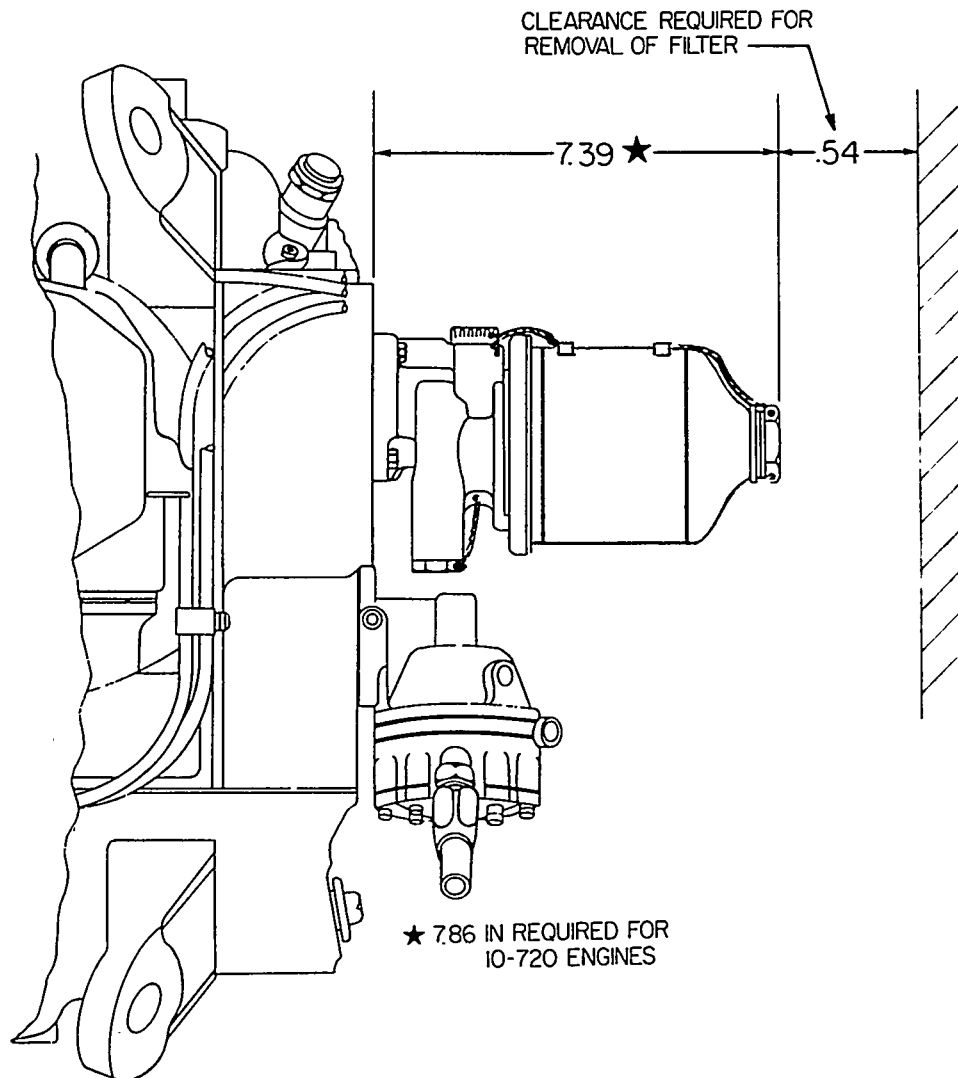

Figure 1. Full-Flow Oil Filter Installation
Engines not equipped with an oil filter can be converted as shown in Figures 2, 3, 4 and 5. The filter is mounted on the oil pressure screen housing pad by means of a special adapter which also serves as a housing for the thermostatic oil cooler bypass valve and oil temperature bulb. See Figure 1 for required clearance between the accessory housing mounting pad and the aircraft firewall.
2. Install the filter assembly on the P/N 77852 adapter. Tighten the attaching bolt to 20-25 foot pounds torque. Lockwire the bolt through the loop on the side of the filter housing as shown in Figure 1.
4. A P/N 53E19600 temperature control oil cooler bypass valve assy. must be assembled at the location provided in the adapter. Use the P/N 76510 gasket that accompanies the valve. See Figures 2, 3 and 4. Lockwire as shown in Figure 1.
3. A P/N 53E19600 temperature control oil cooler bypass valve assy., must be assembled at the location provided in the adapter. Use the P/N 76510 gasket that accompanies the valve. See Figures 2, 3 and 4. Lockwire the valve and filter as shown in Figure 1.
The oil cooler bypass valve mentioned in Part II and III is not used on some of the O-235 series engines. On these models use a P/N STD-111 annular gasket and P/N STD-1350 square head plug. Lockwire the plug in the same manner as shown for the thermostatic oil cooler bypass valve in Figure 1.